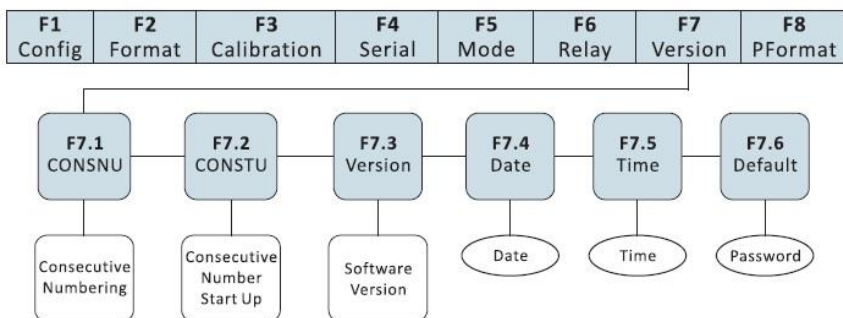

Fig. 13.4 Consecutive Numbering Setup
- (1) Switch the indicator into Configurations mode.
- (2) Press  multiple times until display shows "F7". Press  to go to F7.1 Menu then press  to go to F7.4.
- (3) When display shows "F7.4" (see Fig. 13.4). Press  to enter into Date setup mode and display will show like "00.00.00". The date format is "DD.MM.YY".
- (4) When date setup is completed, press  to save settings and display will show F7.5.
- (5) When display shows "F7.5", press  to enter into time setup mode and display will show like "00.00.00". The time format is "HH.MM.SS".
- (6) When completed, press  to save settings and display will go to F7.6 Menu.
- (7) Move back the jumper of SW2 to DFT to exit from Configurations mode.